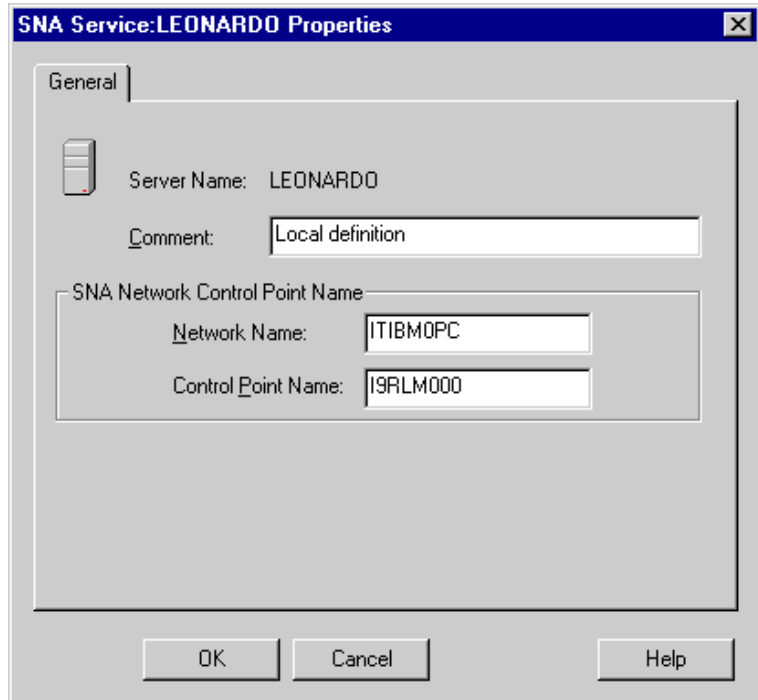

Figure 42. Configuring network and control point names
- 4 On the General page, in the SNA Network Control Point Name group box, enter the network name and control point name of your TME 10 Software Distribution for Windows NT server, as shown in Figure 42.